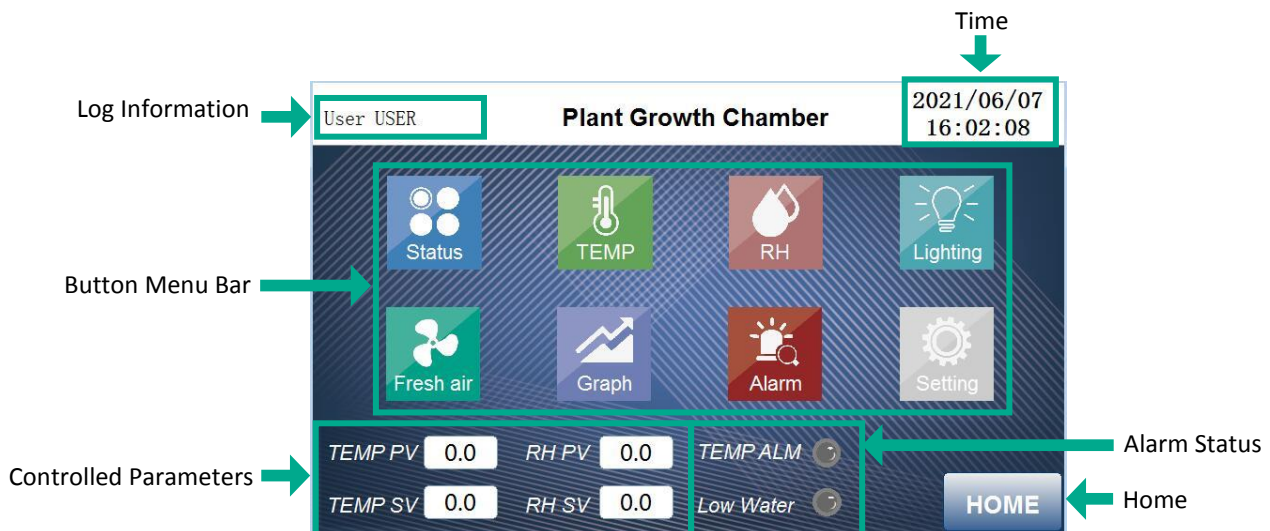

Figure 2-2: Menu Screen
Home Screen presents the current status when the chambers running. The main function is displaying present value, set value of parameters and present alarms. Tap the Menu Button on the screen to the Menu Screen showing as Figure 2-2: Menu Screen
Figure 2-2: Menu Screen illustrates the Button Menu Bar located in the middle of the Menu Screen. Although this Button Menu Bar presents eight (8) functional Icons, at this stage of the controller set-up, it is only necessary to set up the proper Time and Date.